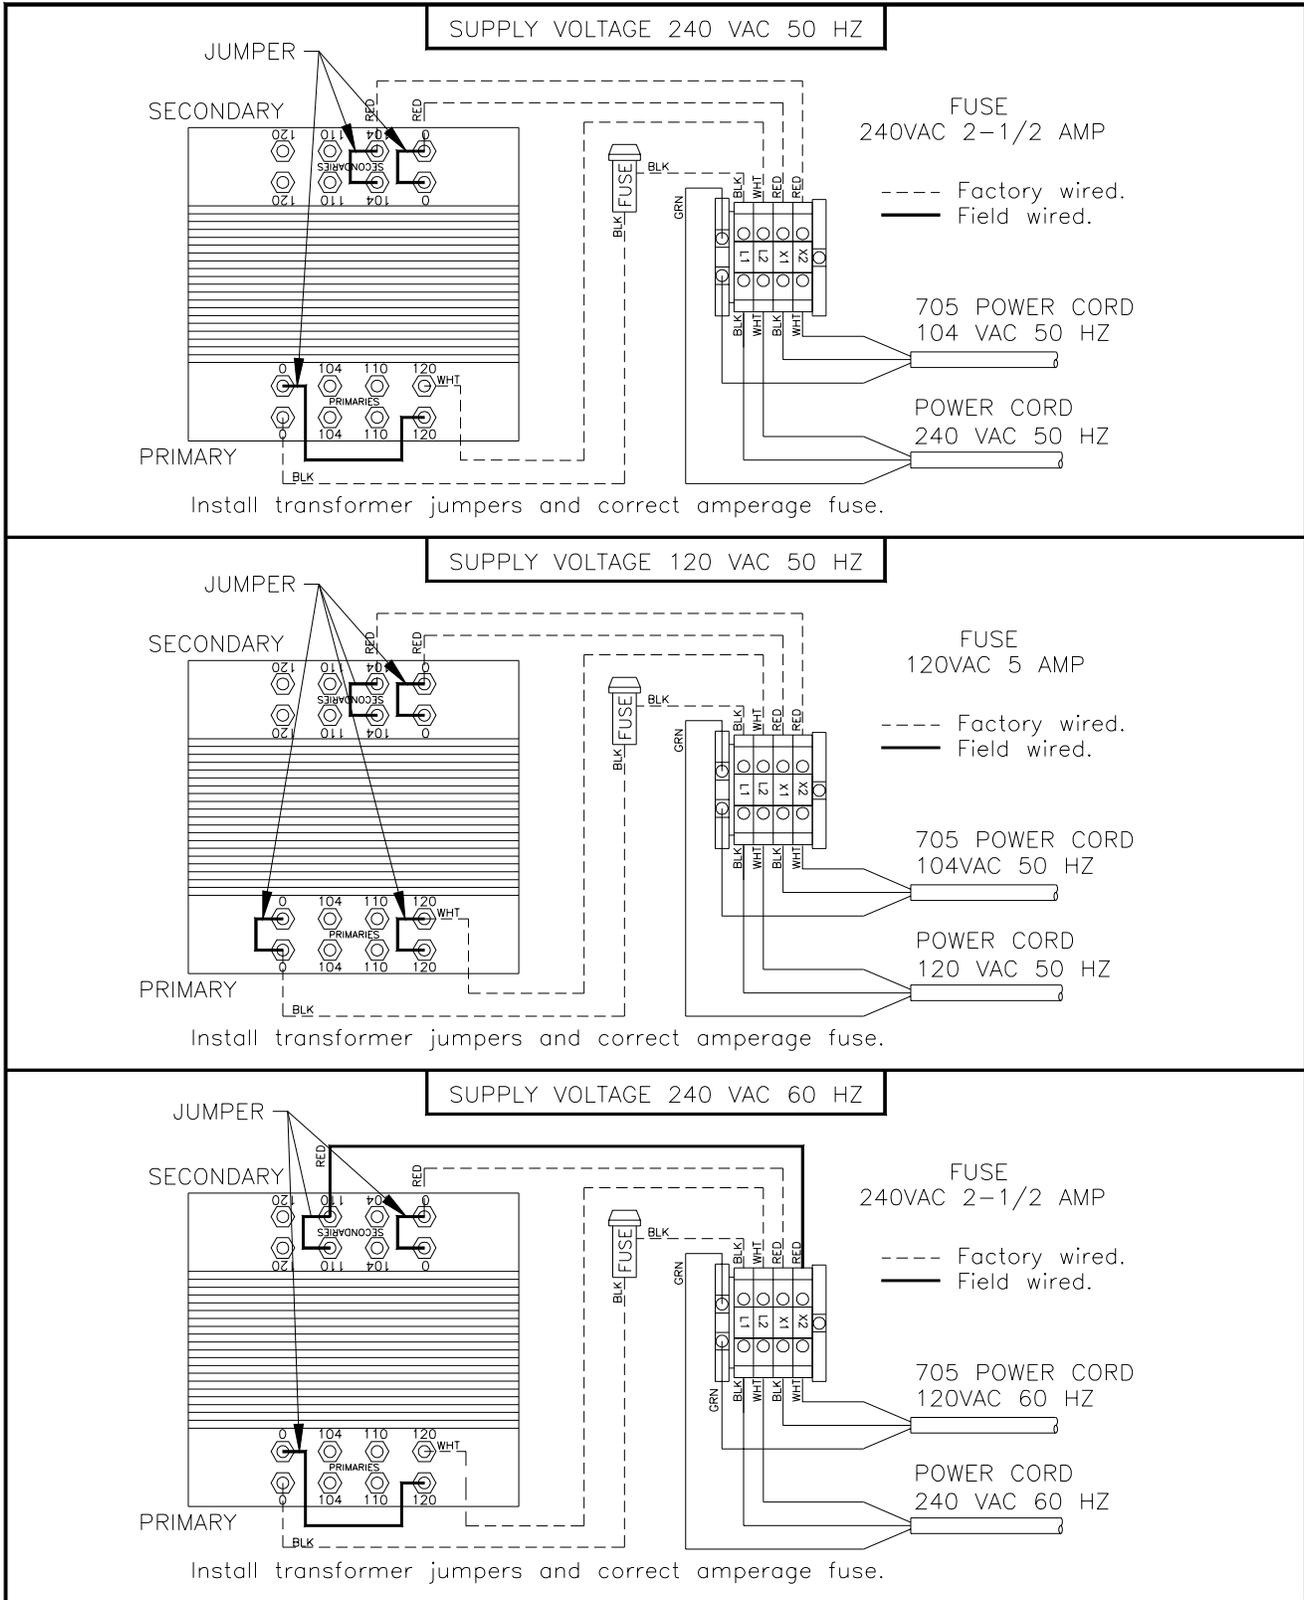

Figure 4-8: 50 Hz Transformer Wiring Diagram
- Cut the Model 705 power cord to the proper length and terminate per the schematic (See Figure 4-8).
- Install the jumpers on the transformer for the correct voltage per the wiring schematic (See Figure 4-8).
- Install the power supply cord (user supplied) per the wiring schematic (See Figure 4-8).
- Install the correct amperage use for the voltage being used per the wiring schematic (See Figure 4-8).